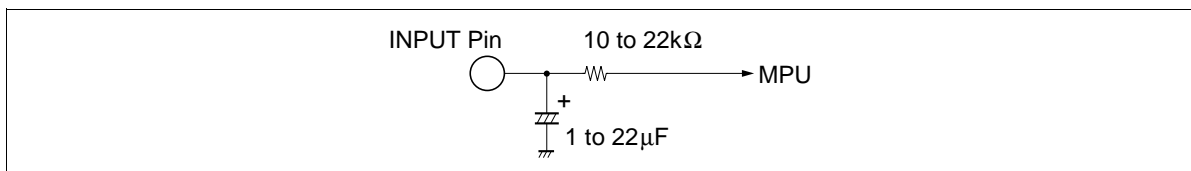

Figure 2 Interface for Reduction of Pop Noise
3. Reducing pop noise is so much better for 10 k to 22 k resistor and 1 μ F to 22 μ F capacitor shown Fig 2. But the resistor connected to MUTE terminal (pin 16) should be under 10 k .